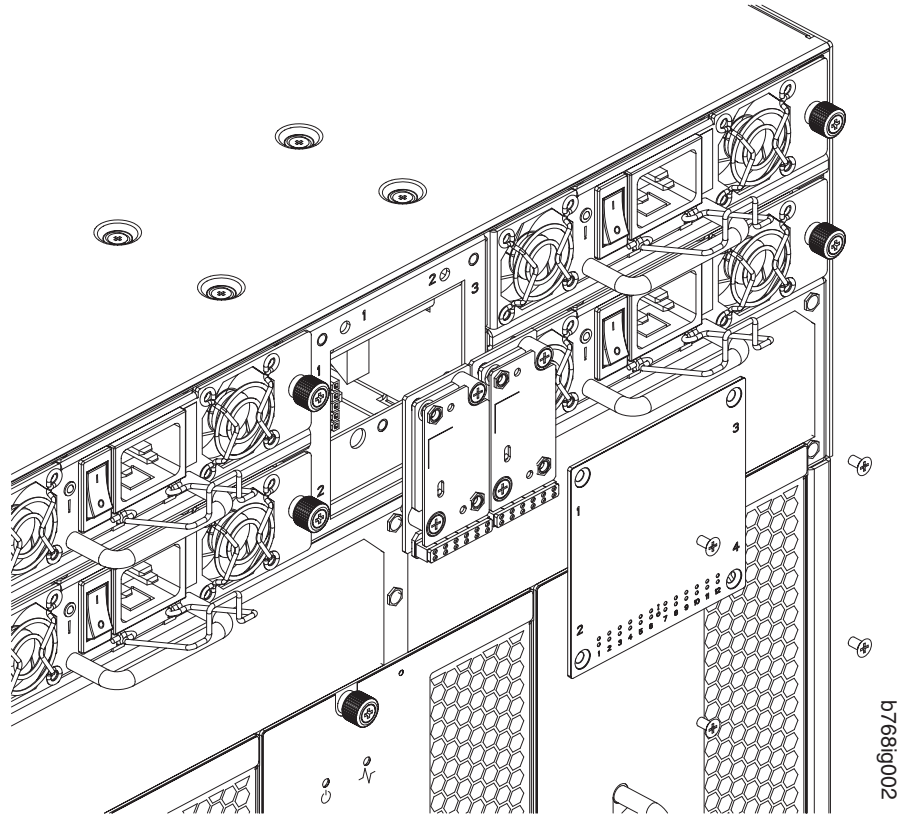

Figure 29. WWN bezel and card removal and installation
6. Remove the four screws from the WWN bezel (see Figure 29 on page 75). Pull the bezel away from chassis and set it aside. The WWN cards are visible.
3. Install the WWN bezel. Orient the bezel on the chassis (see Figure 29). Insert and tighten the four screws.